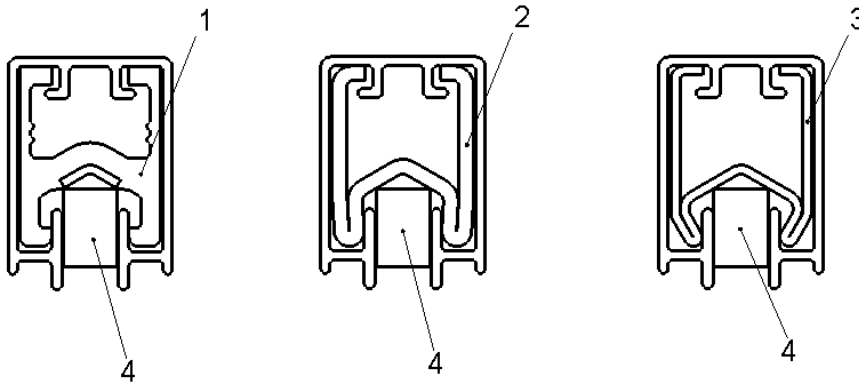

Fig. 11: Plastic insert (included with the horizontal rollers)
Roller Set for 0812 Vertical Bend (inner and outer bend)	Roller Set for 0812 Horizontal Bend (for inner and outer bend incl. insert, see Fig. 11)
Use the supplied plastic inserts (4) (see Fig. 11) to counteract deformation of the profile cross-section!
To produce a horizontal bend, the insert must first be inserted into the profile which is open on one side, so that it is not compressed by the rollers during bending (see Fig. 11).